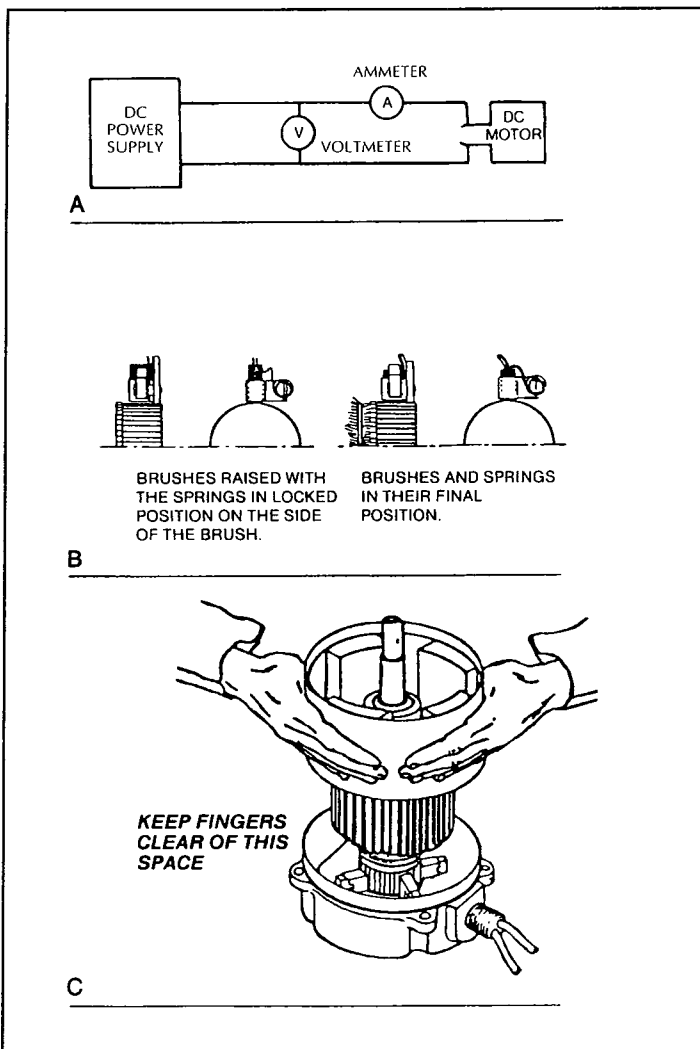

Figure 4-19: Electric Motor Service
4.13 Electric Motor (Figure 4-19)